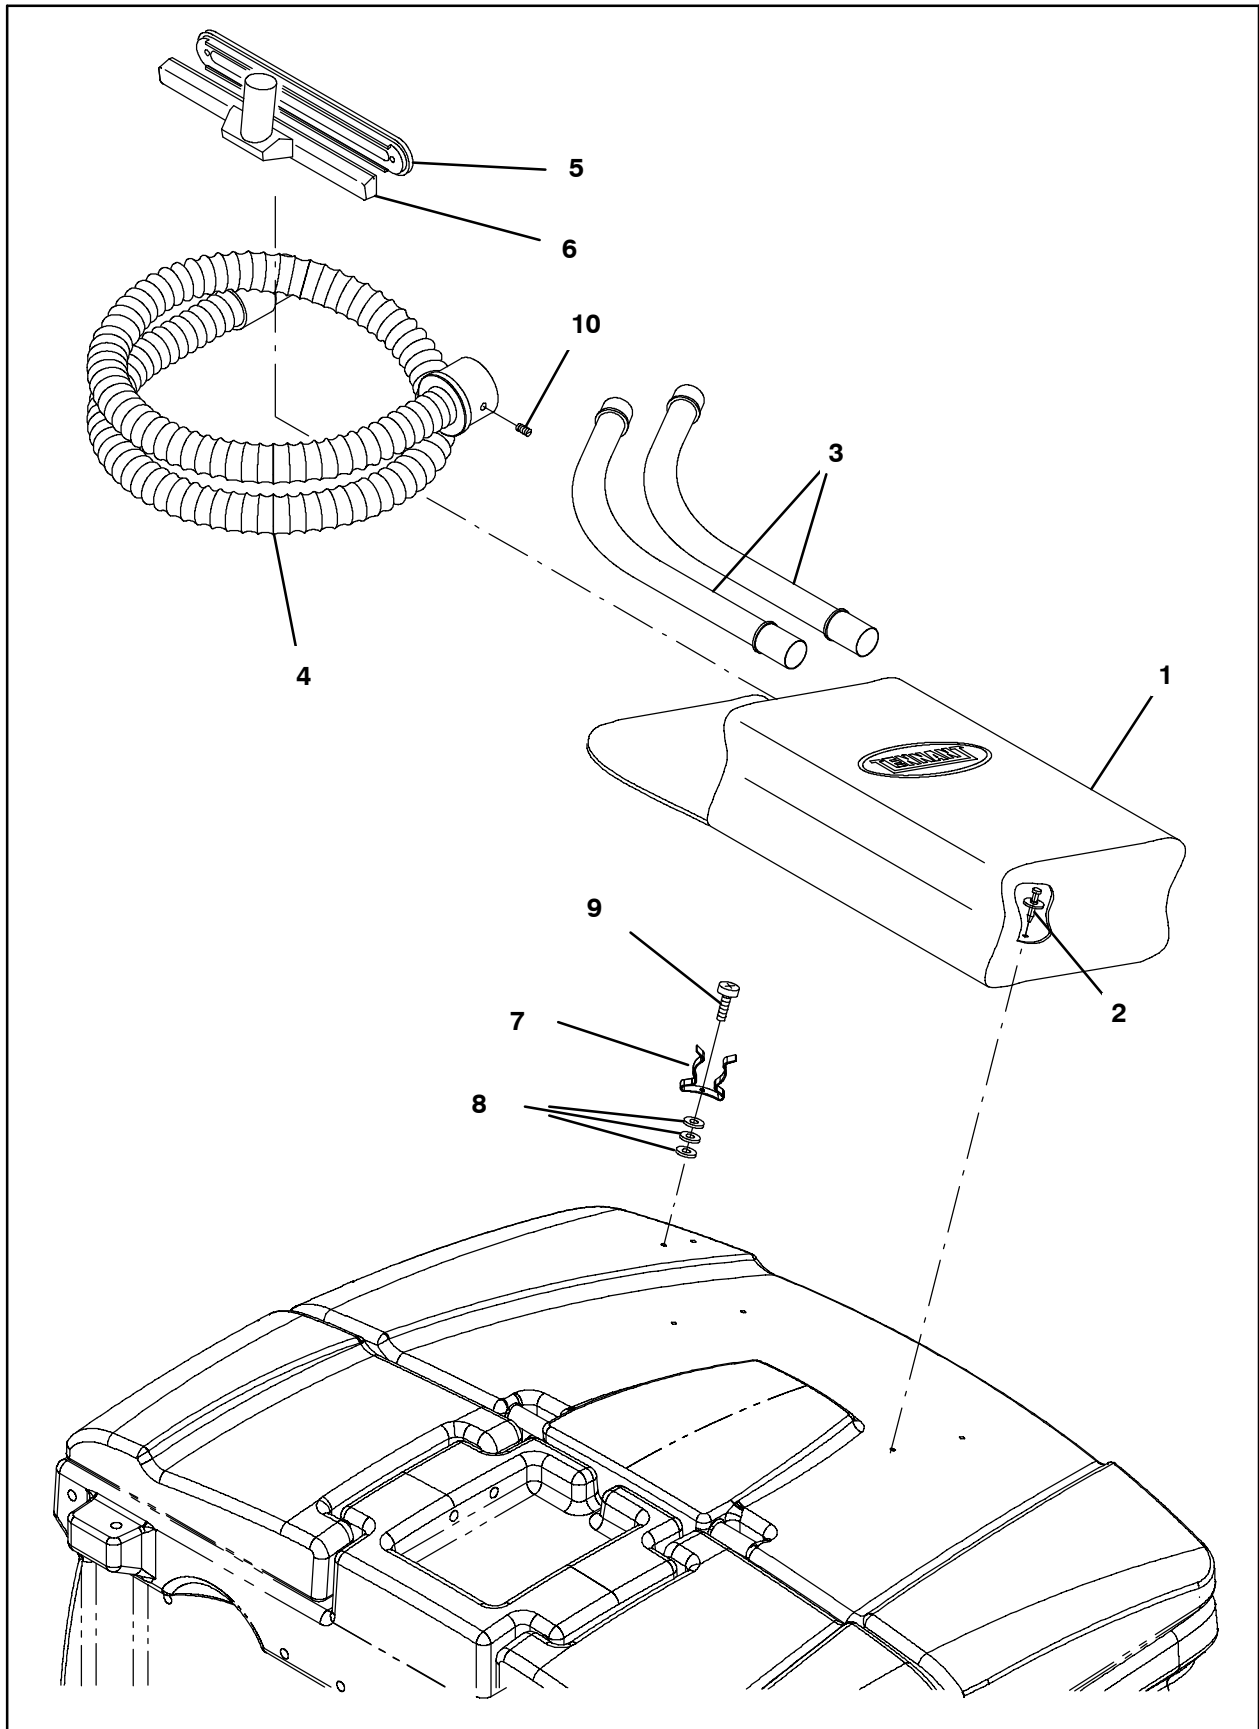

FIG. 3
2. Use four plastic rivets (2) to install the bag (1) onto the recovery tank cover. Refer to Fig. 3.
3. Use a hex screw (9) and three flat washers (8) to install each finger grip clip (7) onto the recovery tank cover. Refer to Fig. 3.
5. Install the squeegee shoe (5) onto the wand nozzle (6). Refer to Fig. 3.
6. Insert the hose (4), wand nozzle (6), and vacuum wand tubes (3) into the bag (1) and insert the ends of the vacuum wand tubes into the finger grip clips (7). Refer to Fig. 2 and Fig. 3.